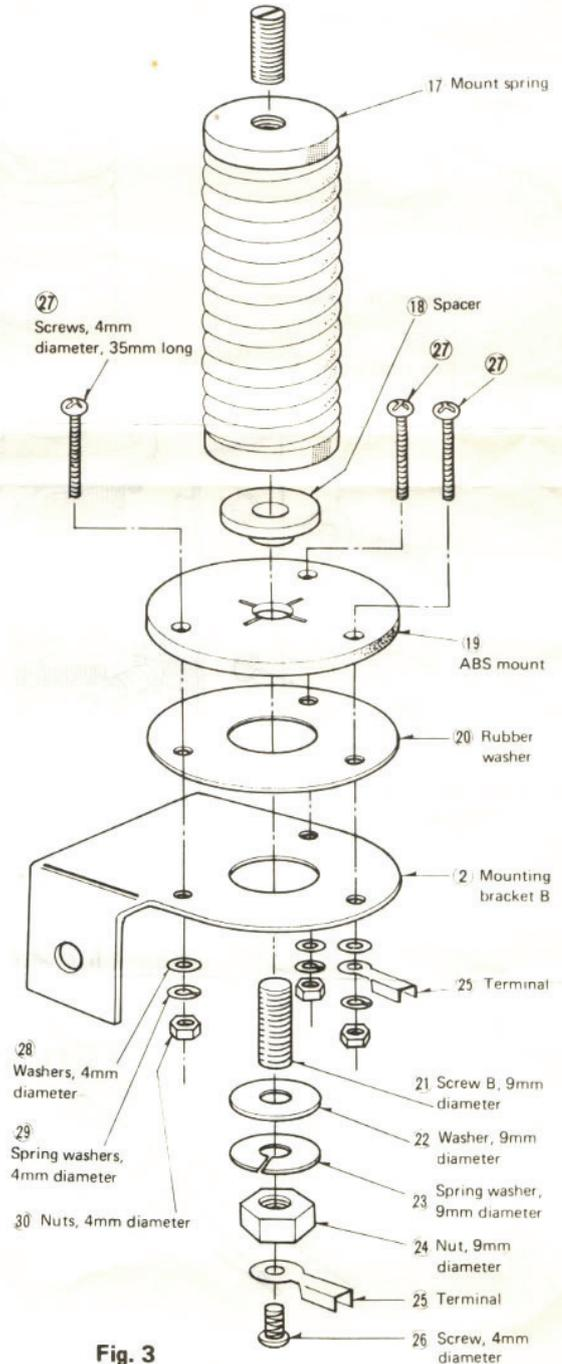

Fig. 3
### 2. Mounting Bracket B (see Fig. 3)
- Place the rubber washer (20) on the mounting bracket B, then place the ABS mount(19) thereon confirming the mounting holes.
- Insert the three screws(27) into the mounting
holes as shown in Fig. 3. Tighten the screws loosely with the washer(28), spring washer(29) and nut (30), with the terminal(25) attached to one of the screws as illustrated.
- Next, place the spacer(18) on the ABS mount(19), then place the mount spring(17) on the spacer.
- Attach the washer(22) and spring washer(23) to the screw B and tighten with the nut(24).
- Finally, tighten the terminal(25) to the screw B (21) using the screw(26).